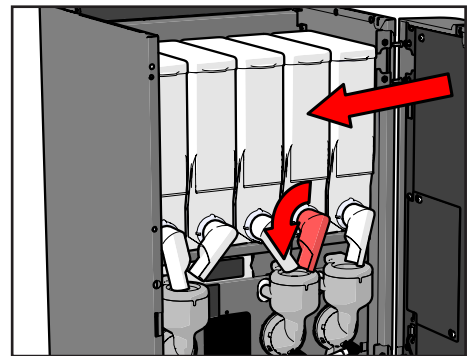

Figure 9.
11. Reinsert the canisters into the machine (see Figure 9)